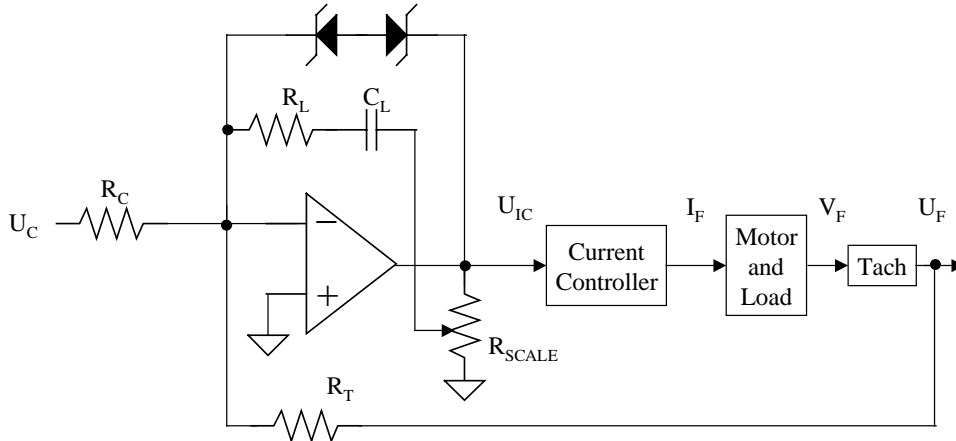

Figure 1. Schematic representation of analog velocity controller
Figure 1 shows the schematic of a typical analog proportional-integral (PI) velocity controller. The servo gains are adjusted with resistors and capacitors and the execution is done with the op-amp. The most common feedback device for an analog controller is an analog tachometer. The current controller and motor are about the same as with a digital system (See June, 2000).